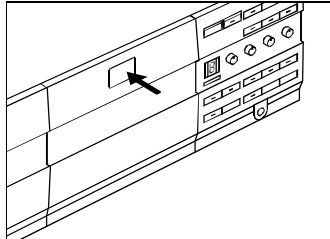

Figure 6-31. Opening the Ink Cartridge Door
1. Open the ink cartridge door by pressing the OPEN/CLOSE button (Figure 6-31).